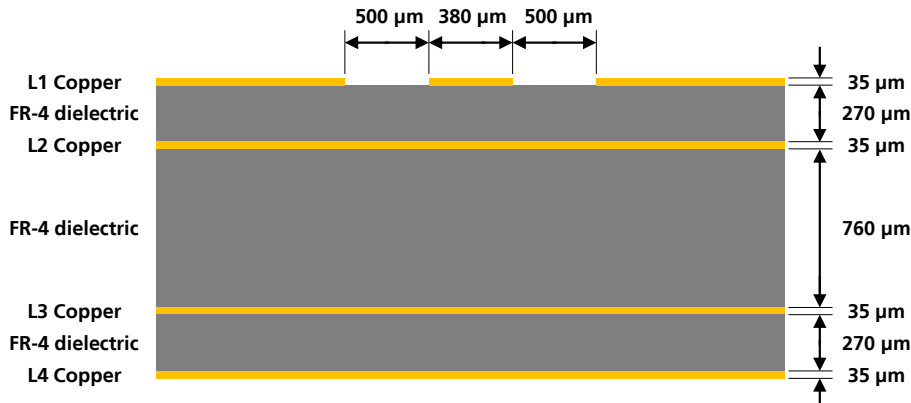
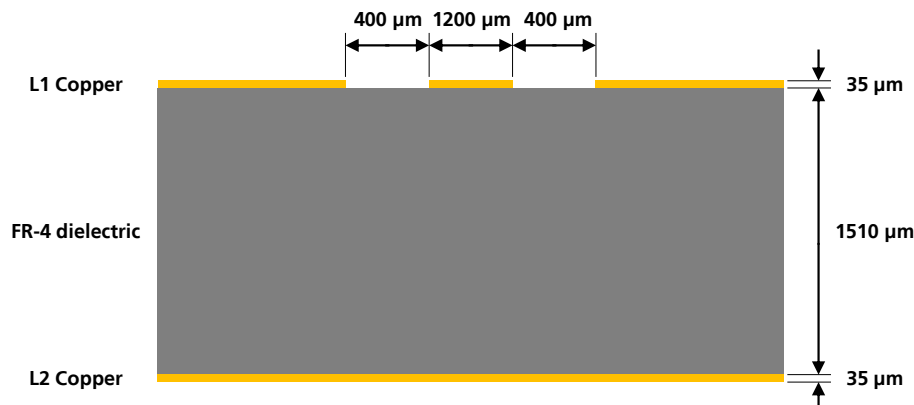

Figure 15: Example of  $50\ \Omega$  coplanar waveguide transmission line design for the described 4-layer board layout
Figure 16: Example of  $50\ \Omega$  coplanar waveguide transmission line design for the described 2-layer board layout
Figure 15 and Figure 16 provide two examples of proper  $50\ \Omega$  coplanar waveguide designs. The first transmission line can be implemented in case of 4-layer PCB stack-up herein described, the second transmission line can be implemented in case of 2-layer PCB stack-up herein described.
- the thickness of the transmission line itself (e.g.  $35\ \mu\text{m}$  in the example of Figure 15 and Figure 16)
- the thickness of the dielectric material between the top layer (where the transmission line is routed) and the inner closer layer implementing the ground plane (e.g.  $270\ \mu\text{m}$  in Figure 15,  $1510\ \mu\text{m}$  in Figure 16)
- the dielectric constant of the dielectric material (e.g. dielectric constant of the FR-4 dielectric material in Figure 15 and Figure 16)
- the gap from the transmission line to the adjacent ground plane on the same layer of the transmission line (e.g.  $500\ \mu\text{m}$  in Figure 15,  $400\ \mu\text{m}$  in Figure 16)